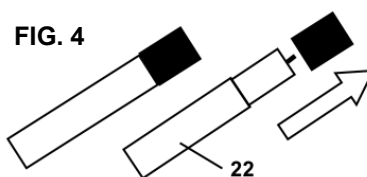

FIG. 4
1. Remove the protection cap from the lower shaft (22) (Fig.4).